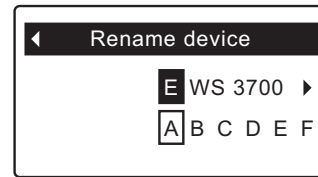

FIG. 74
4. Press the SELECT (○) button to display the Rename device screen (See Figure 74).